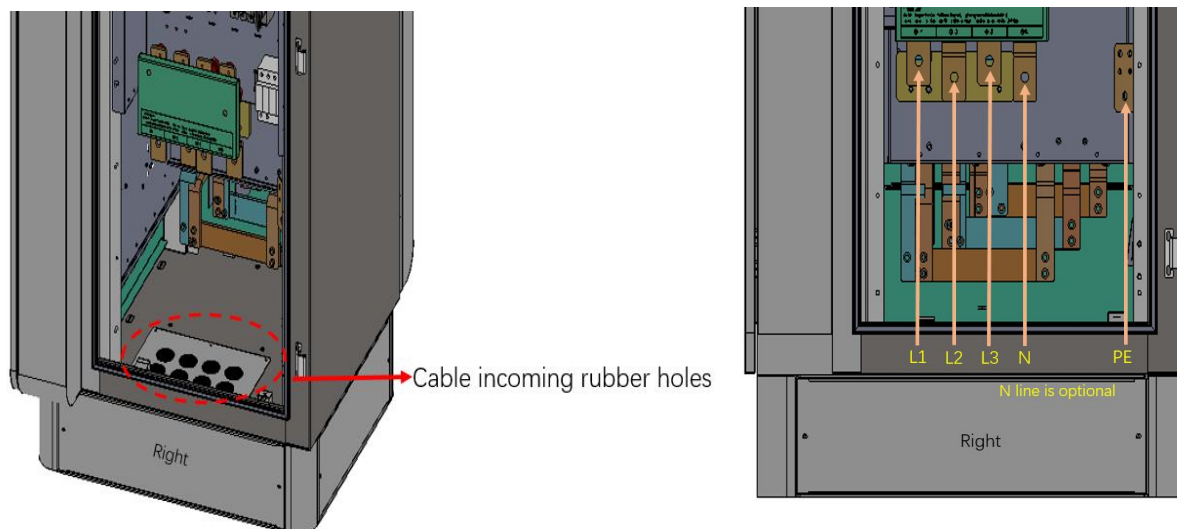

Figure 10 Power cable wiring diagram
(1) Open the right door of the charger, and gently insert the power module into the module slot as shown in Figure 10.